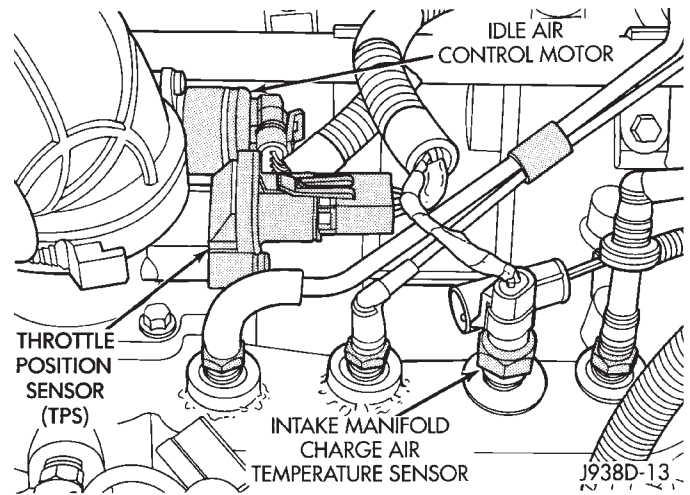

Fig. 9 Sensor Connectors
(13) Verify that brake vacuum booster hose is firmly connected to fitting on intake manifold. Also check connection to brake vacuum booster.
(14) Inspect the air cleaner inlet and air filter element for restrictions.
(15) Inspect radiator grille area, radiator fins and air conditioning condenser for restrictions.
(16) Verify that intake manifold air temperature sensor wire connector is firmly connected to harness connector (Fig. 9).